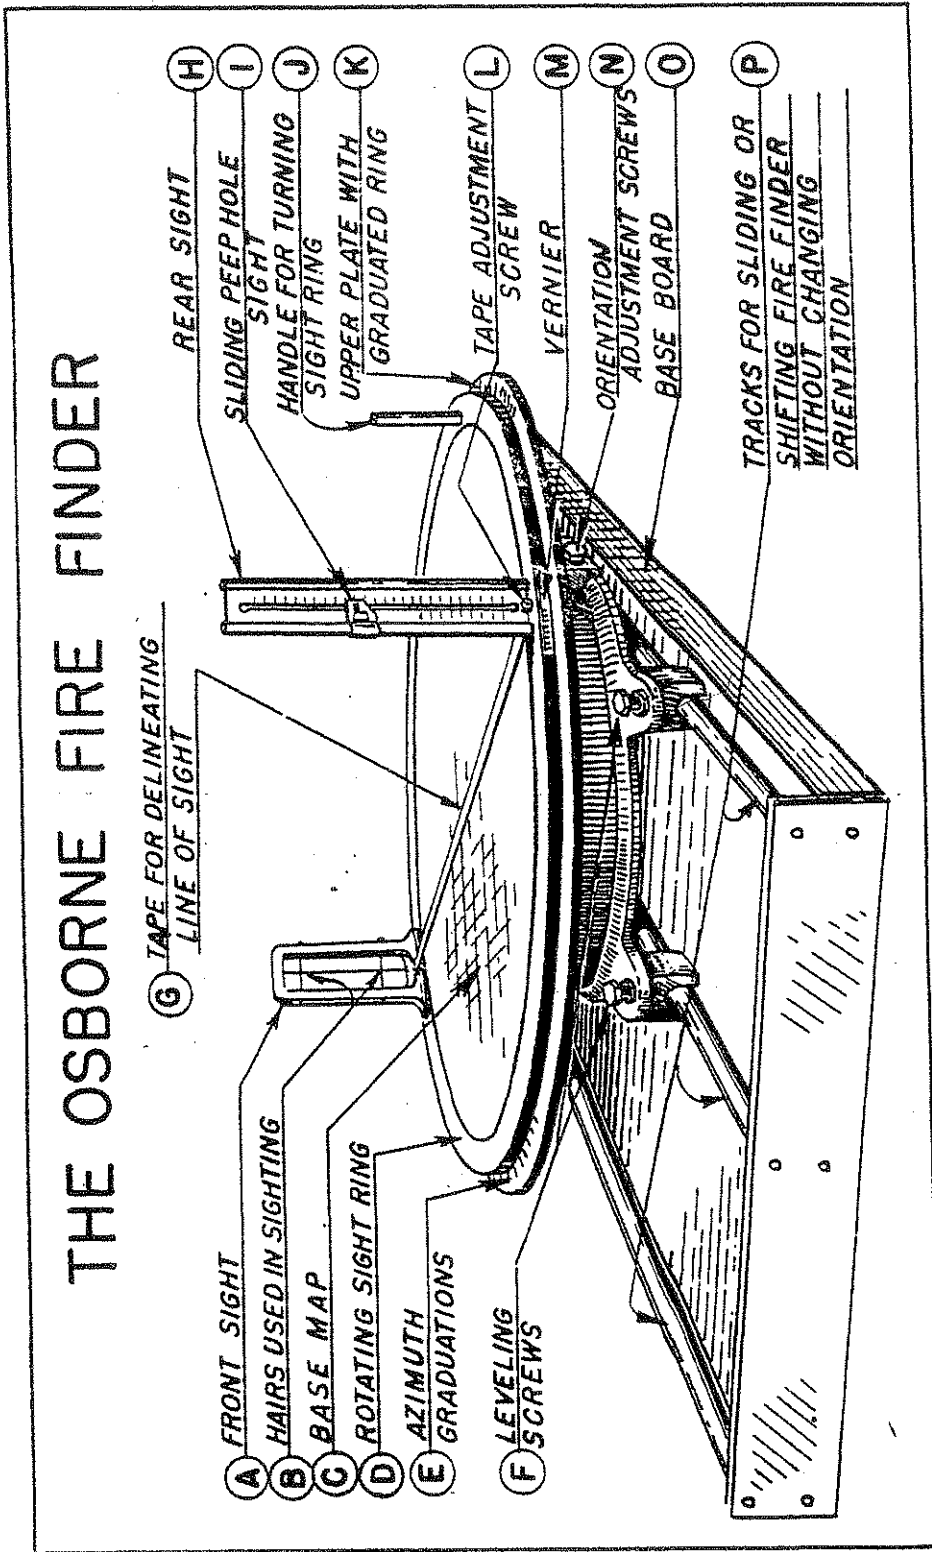

Figure 1.--The Osborne firefinder.
34.11e - Using Osborne Firefinder. The Osborne Firefinder is the basic tool for locating fires. The accuracy of reports of fires will depend on how well the instrument is adjusted and oriented. Knowledge of the various parts of the firefinder (figure 1) will enable the lookout to keep it in adjustment.